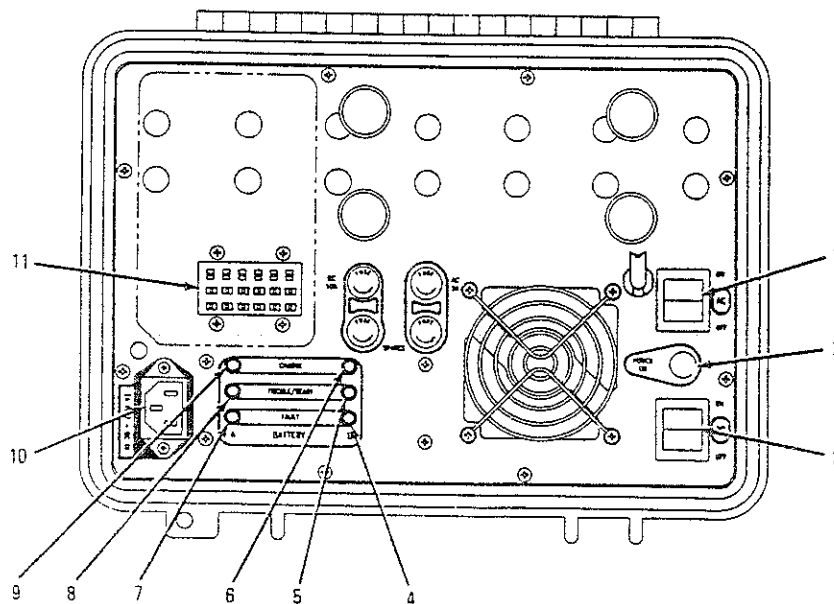

Figure 2-1. Battery Charger Controls, Indicators and Connectors
The controls, indicators and connectors associated with the battery charger are described in table 2-1 and their locations are shown in figure 2-1.
Step 1. Set AC and DC power ON-OFF switches, figure 2-1, to OFF position.